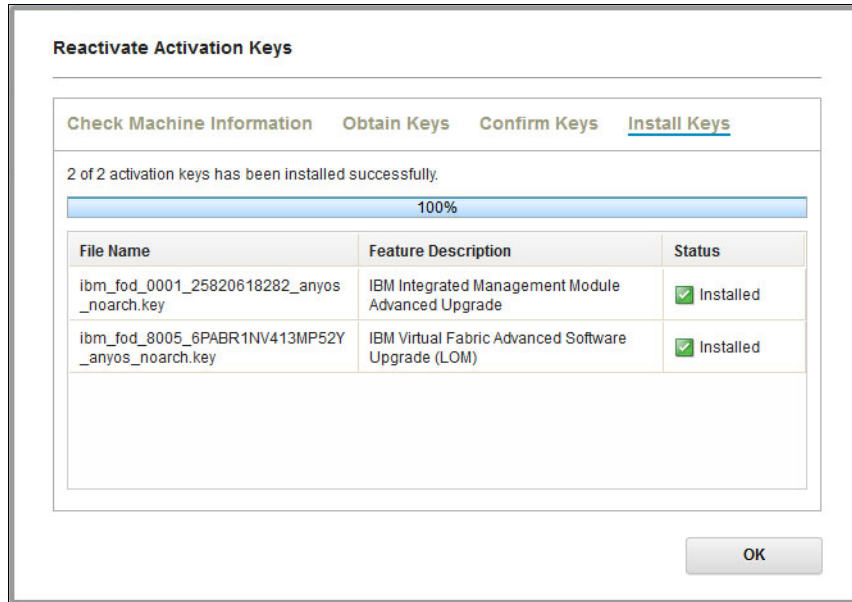

Figure 5-24 Keys installed
6. Install the keys as shown in Figure 5-24.